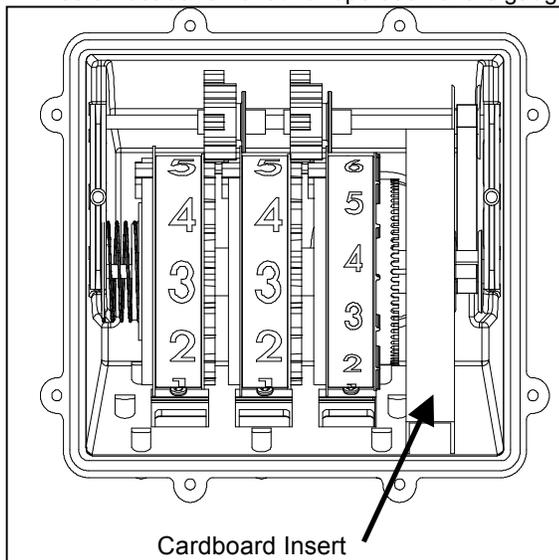

Figure 2
4. Remove the eight (8) bolts from the top of the gauge. Place them, the cover and the lid gasket in a safe place. Be careful not to damage the lid gasket.
5. While supporting the float, remove the cardboard insert that is holding the drive gear in place. See Figure 2.